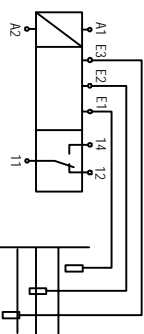
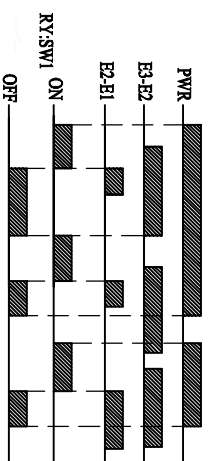

Figure 2 Connection Diagram of NJB1-YW Floatless Relay
Figure 3 Operating Time Sequence Diagram of NJB1-YW Floatless Relay
4.11 Connection diagram and operating time sequence diagram: see Figure 2 through Figure 3.